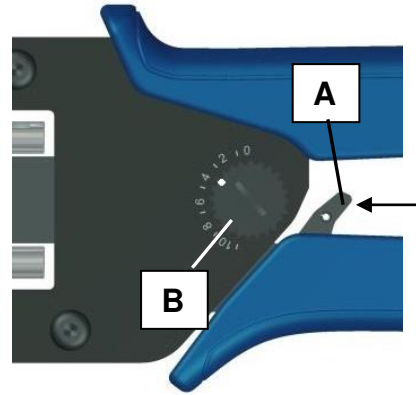

Fig.7.
- ❑ Using a finger, push the ratchet relief (A), located inside the moving handle, (Fig. 7.) in direction as shown to unblock the tool, and remove obstruction before continuing with the work.